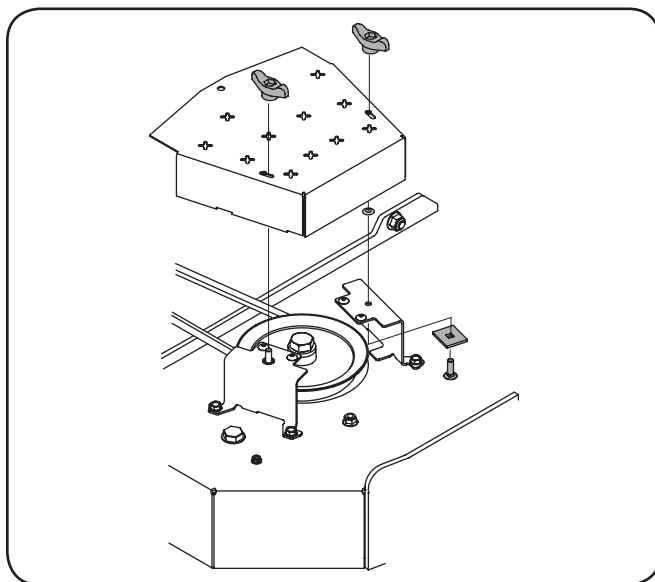

Figure 7-6
3. To remove the belt covers, remove the wing knob from the carriage screws securing it to the deck. See Figure 7-6.
4. The speed nut should hold the carriage screw and tab bolt in place, if not re-install as shown in Figure 7-6.